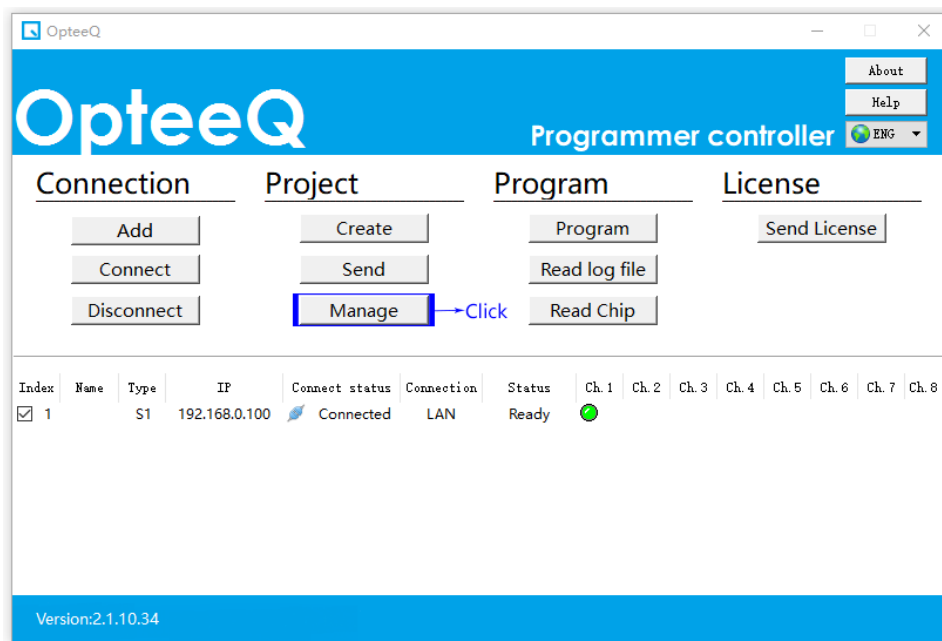

Figure 4.17: Project Management
1)Click "Manage" (as shown in Figure 4.17).